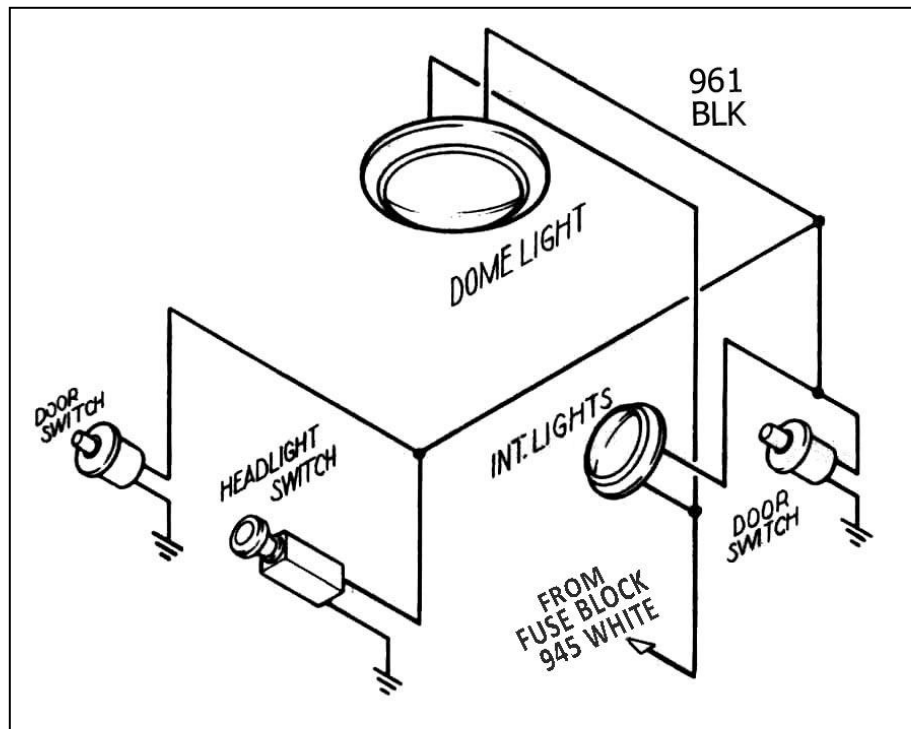

Figure 10-3 Interior Lighting (GM Style Jamb Switch – Painless Part #80170)
10.4 Interior Lighting. See Figure 10-3